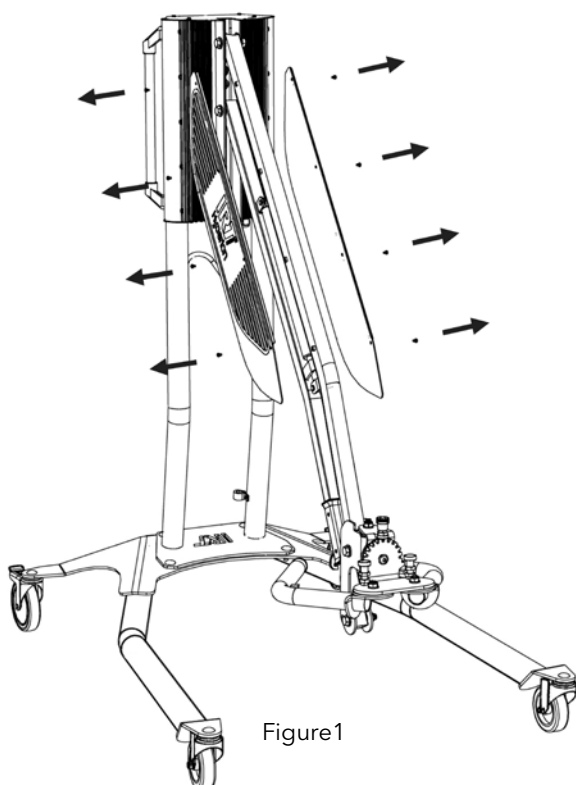

Figure1
1. Remove the four screws fastening the cover that is located on either side of the arm (fig 1).